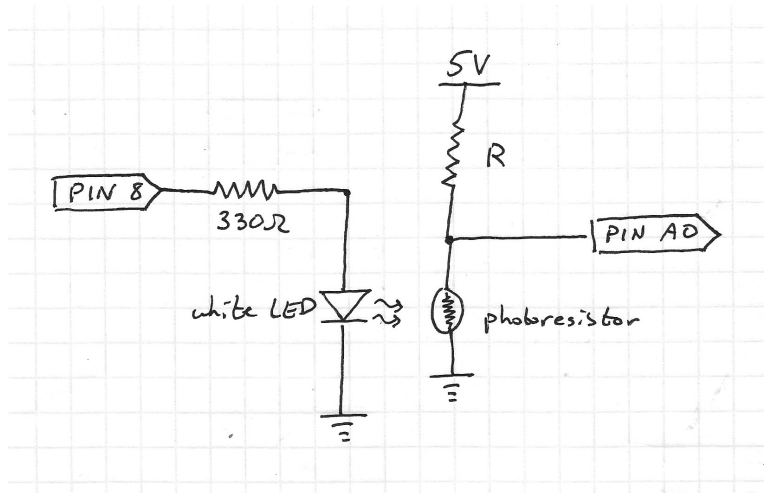

Figure 3: Circuits for the “laser”.
2. Consulting the LED/photoresistor circuits in Figure 3, do the following. Don't get ahead of yourself here, do each step in order.